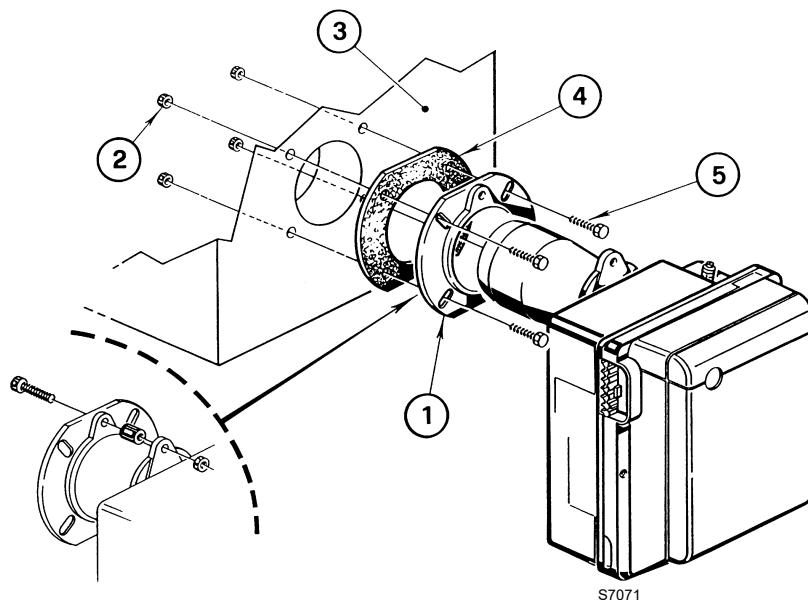

Fig. 9
- insert the screw and two nuts on the flange 1), (see Fig. 9).